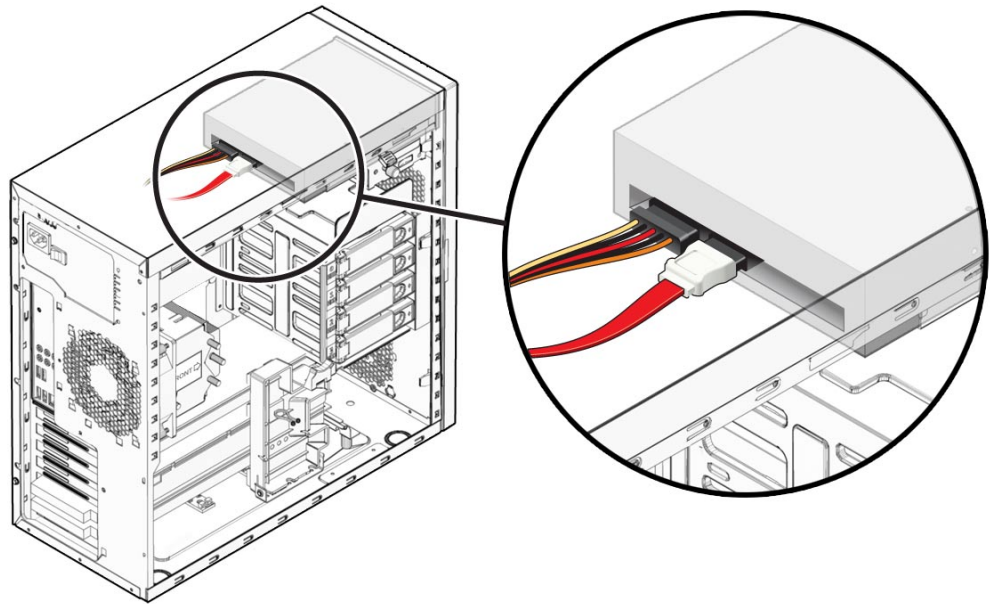

FIGURE 3–13 Location of DVD Cables
Set the hard drives aside in a safe location. After removal of the hard drives, the storage backplane is accessible (see Figure 3–8).
- 4 Disconnect the cables from the back of the DVD drive (see Figure 3–13).
- 5 Push the drive retaining lever tab up to release the retaining hooks (see Figure 3–14).
- 7 **Connect the SATA, power, and jumper cables to the back of the DVD drive (see Figure 3–13).**